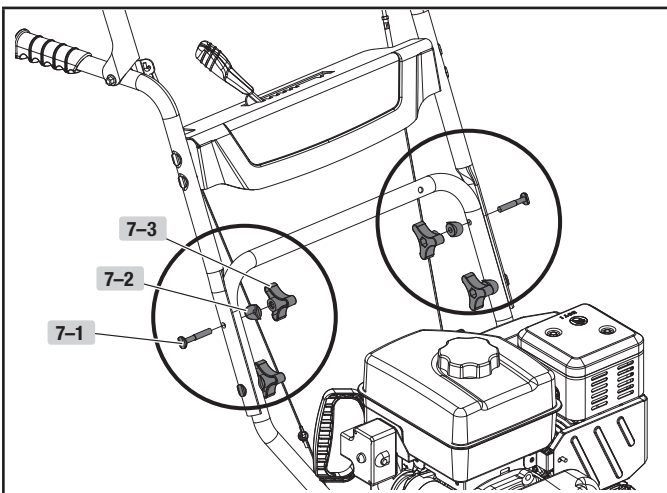

Figure 7
2. Connect the last 2 bolts (7-1), 2 washers (7-2) and 2 locking knobs (7-3) on the top (Fig. 7). Fully hand tighten all four locking knobs.